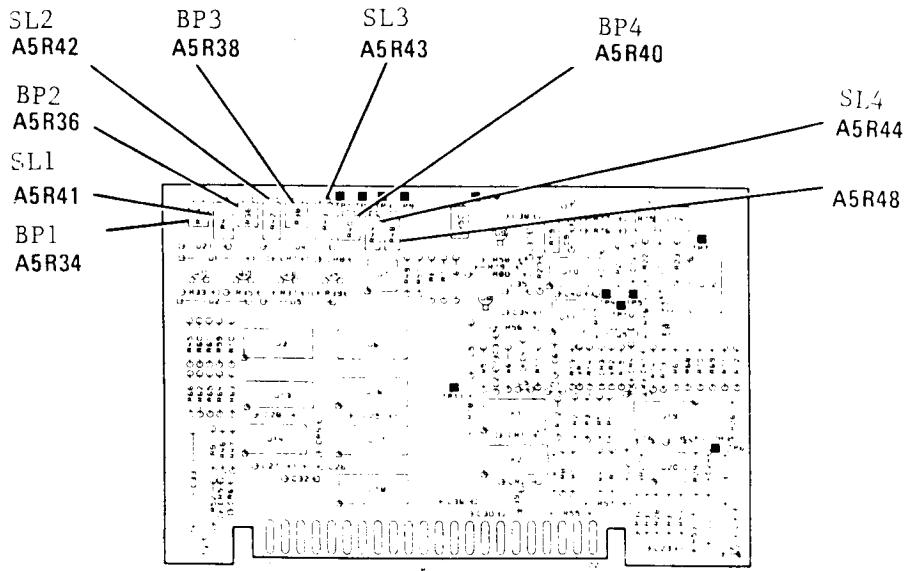

Figure 12. A5 board adjustment locations.
- (e) **RF BLANK (ON).**
(24) Set oscilloscope for an X verses Y operation and adjust controls as necessary to display the TI output.
(25) Set A5R34, A5R36, A5R38, and A5R40 (fig. 12) fully cw.
(26) Adjust A5R48 (fig. 12) for best overall trace flatness as displayed on oscilloscope (R).
(27) Adjust BP (breakpoint) and SL (slope) adjustments listed in table 8 for best overall trace flatness as displayed on oscilloscope.
| BP adjustment (fig. 12) | SL adjustments (fig. 12) (R) |